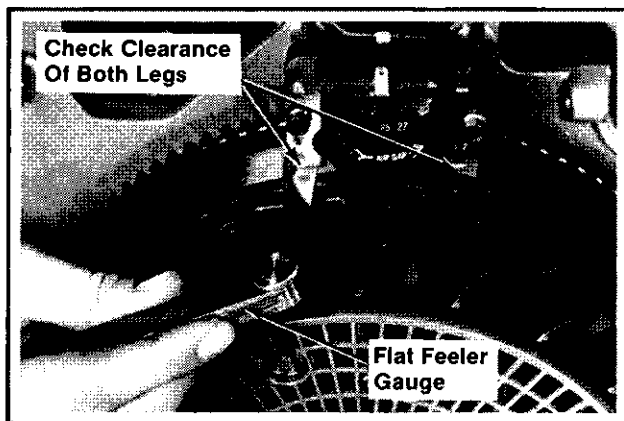

Figure 8-7. Checking Magnet-To-Module Air Gap.
5. Rotate the flywheel back and forth; check to make sure the magnet does not strike the module. Check gap with feeler gauge and readjust if necessary. Refer to Figure 8-7.